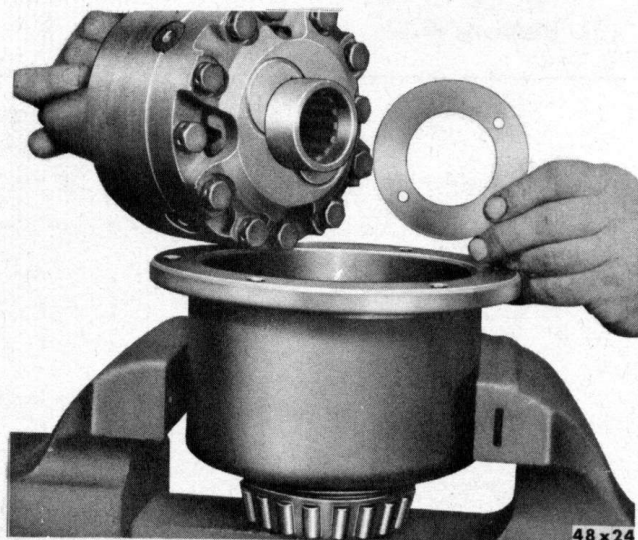

Fig. 69—Removing Differential and Thrust Washer
- (19) Lift out entire differential assembly and support case thrust washer (Fig. 69).